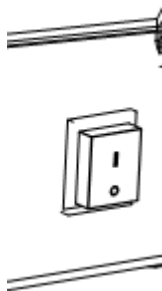

Figure.2
- a. Turn the power switch to position I and check that the fan starts running correctly. (Fig 2.)